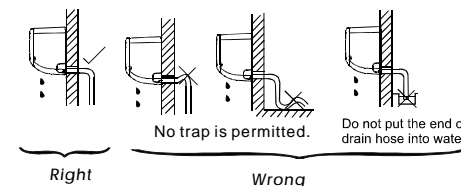

Fig.6
1. Connect the drain hose as described in Fig.6. The drain hose should be inclined downward.